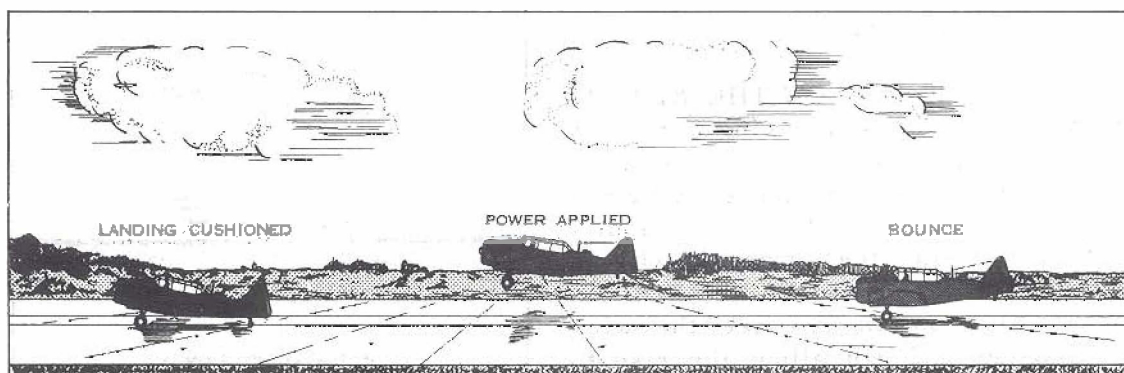

Figure 4: Bounce Recovery
(1) If you make a poor landing, the best remedy is to open the throttle and overshoot. If the irregularity is not serious, however, and you are positive that a good, safe landing can be made, it is permissible to take recovery action. (Figure 4)
(2) BOUNCE - Occasionally, owing to a poorly judged round-out, you may touch the runway prematurely and bounce. Usually, successful corrective action can be taken as follows.